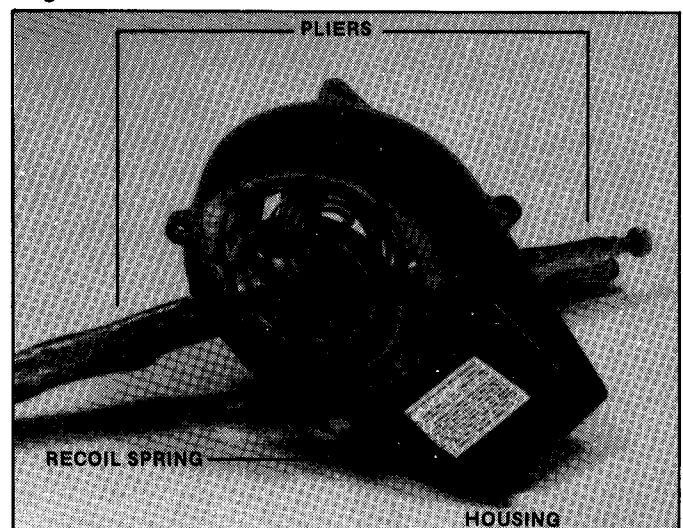

FIGURE 7.5
A. If the recoil spring does come out of the housing it can be re-installed using two pair of locking pliers such as vise grip, or equivalent, small enough to insert through the side louver openings of the housing. Remembering that the spring winds a clockwise direction from the outside winding working inward. Place the hooked end of the spring around the post inside the housing. Insert one of the pair of pliers through the side louver of the housing, across the top of the post and extending approximately 3/8 inch to the inside. Clamp the pliers firm but not tight enough to damage the housing. Now locate the second pair of pliers directly across on the opposite side and clamp them firm, allowing to extend approximately 3/8 inch to the inside. Wind the spring one coil at a time placing it under the extended jaws of the pliers. When completely wound carefully remove the pliers. See Figure 7.5.
B. If it is necessary to replace the spring, the replacement is furnished pre-wound for assembly. Leave the retainer on the new spring to keep it wound and place the spring into the housing. Position the hooked end of the outer winding of the spring around the post inside the housing. Remember that the spring winds in a clockwise direction from the outside winding working in inward. With the spring in position carefully remove the retainer. Refer to Figure 7.5.